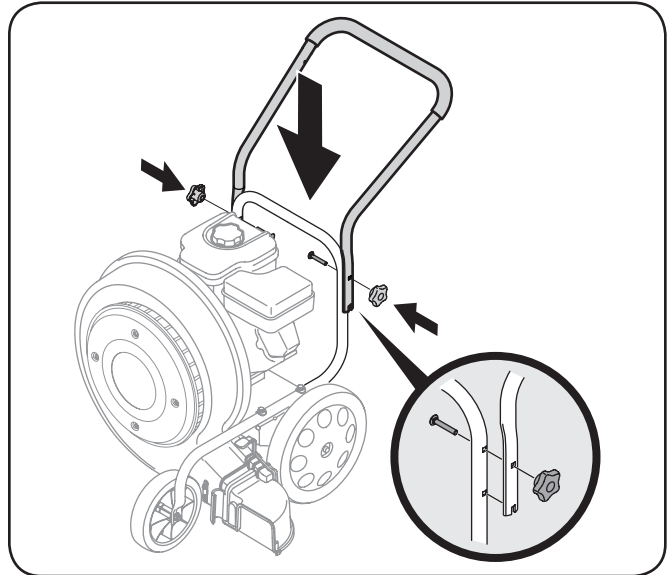

Figure 3-2
2. Place the upper over the lower handle, aligning the upper holes/metal tabs in the upper handle with the upper holes/lower holes in the lower handle. See Figure 3-2.
3. Secure with the carriage screws and star knobs removed earlier. See Fig. 3-2.